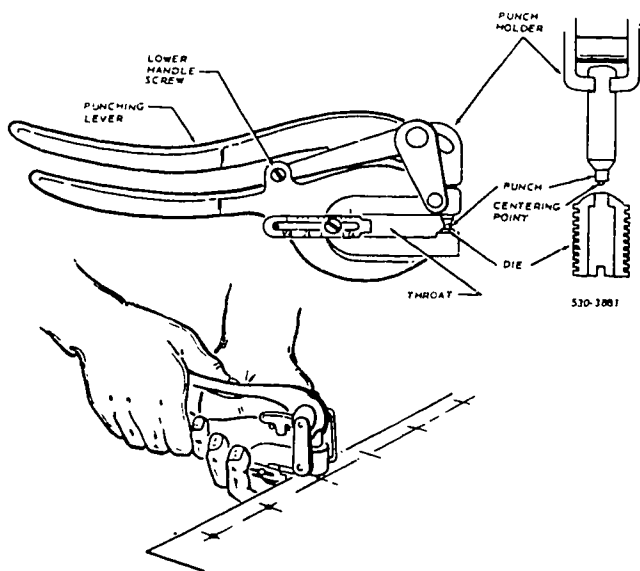

Figure 2-9. Whitney punch.
**Whitney Punch and Iron Hand Lever Punch.** The Whitney punch and the iron hand lever punch have interchangeable dies for piercing holes in metal. The Whitney punch, shown in figure 2-9, is used to punch light gage metal and is available with dies ranging in size from 1/16 to 3/32 inch. When making holes in exact locations, set the centering point in the center punch mark. The iron hand lever punch is similar to the Whitney punch except that it has longer handles; it is available with dies ranging in